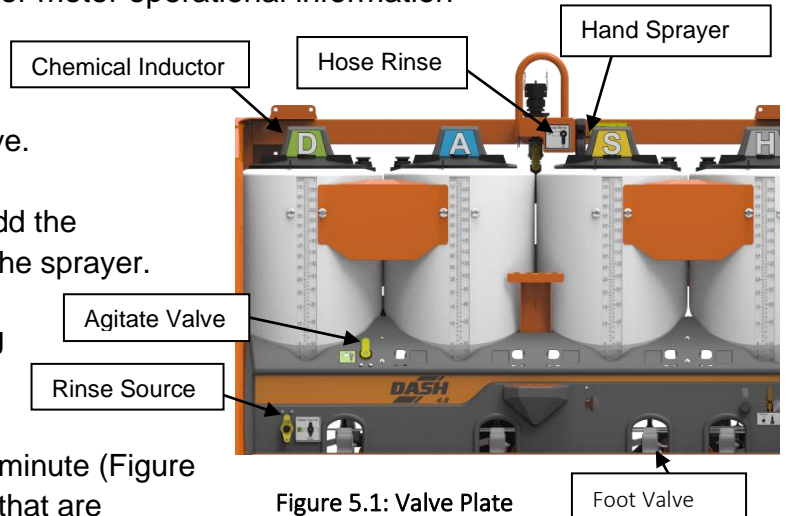
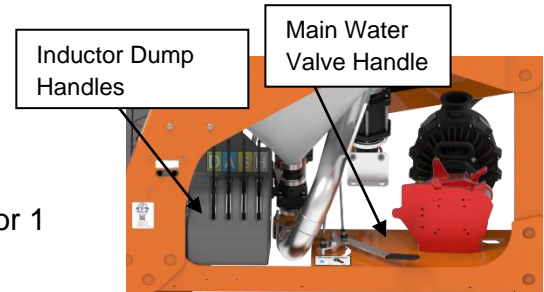

Figure 5.1: Valve Plate
Figure 5.2: Chemical Dump Handles and Pump Motor
3. Change the rinse source to inductor D or J (Figure 5.1).
4. Turn on the agitate valve and let run for 1 minute (Figure 5.1). Also, run any optional agitate valves that are installed.
5. Ensure main water valve (Figure 5.2) is closed and pump outlet is blocked then open all 4 of the inductor valves (Figure 5.2). The hand sprayer can be used to clean manually if desired.
7. Connect main hose to sprayer and empty all inductors using the gas-powered water pump (Figure 5.2). Close inductor valves when finished.
8. Change the rinse source to water and fill the left inductor D or J, depending on the model, with minimum 30 gal using the agitate valve. (Figure 5.1).
9. Turn on the agitate valve and let run for 30 seconds (Figure 5.1). Also, run any optional agitate valves that are installed.
12. Connect main hose to sprayer and empty all inductors using the gas-powered water pump (Figure 5.2). Add more fresh water as needed for sprayer rinse.
14. Turn on the agitate valve (Figure 5.1) and fill left inductor with enough fresh water to push any rinse water out of the main water hose.
15. Change the rinse source to inductor D or J (Figure 5.1).
16. Turn on the agitate valve and let run for 30 seconds (Figure 5.1).
17. Turn the rinse source back to water (Figure 5.1).
7. Set the DASH's rinse source to "D" (Figure 5.1), put ~ 10 gallons of antifreeze in inductor D.
8. Run all installed agitate valves to vent water from lines. (Figure 5.1)
9. Open all the inductor valves (Figure 5.2). Using foot valves activate all jug rinse nozzles to vent hoses. (Figure 5.1)
10. Close inductor dump valves. (Figure 5.2)
4. Set Rinse Source to Water. (Figure 5.1)
5. Turn on all installed Agitate valves and let run for 30 sec. (Figure 5.1)
6. Open inductor valves to turn on all the inductor rinse valves. Let run for 1 minute. (Figure 5.2)
8. Turn on Hand Sprayer and let it run until the antifreeze is flushed out. (Figure 5.1)